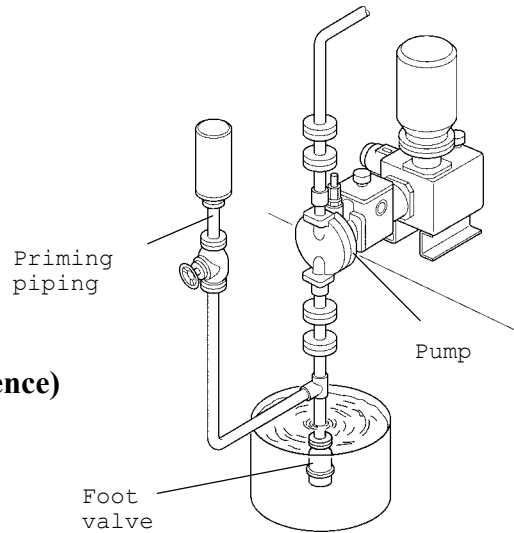

Fig.1-7 Priming piping (reference)
- (1) Normally, the pump should be used in a flooded condition.
- (2) In case of priming, a foot valve and priming pipe shown in Fig.1-7 are necessary at the time of startup.